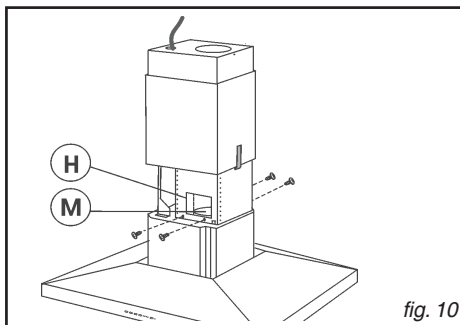

fig. 10
- Secure the hood to the telescopic structure by means of 4 screws (provided) - Fig. 10.
- Through the openings H (Fig. 10) secure the air exhaust pipe to the air vent of the motor (M).